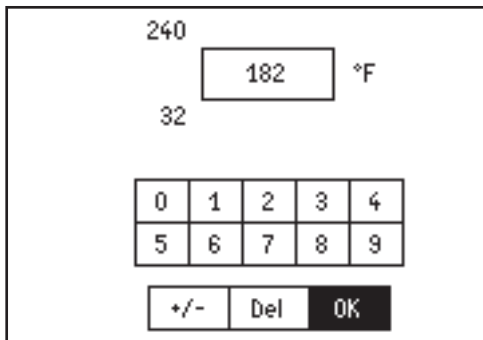

Figure 22. – Changing a Value
- Press the round OK button to select that line. **Figure 22** shows a typical screen for this type of setting. by anyone.